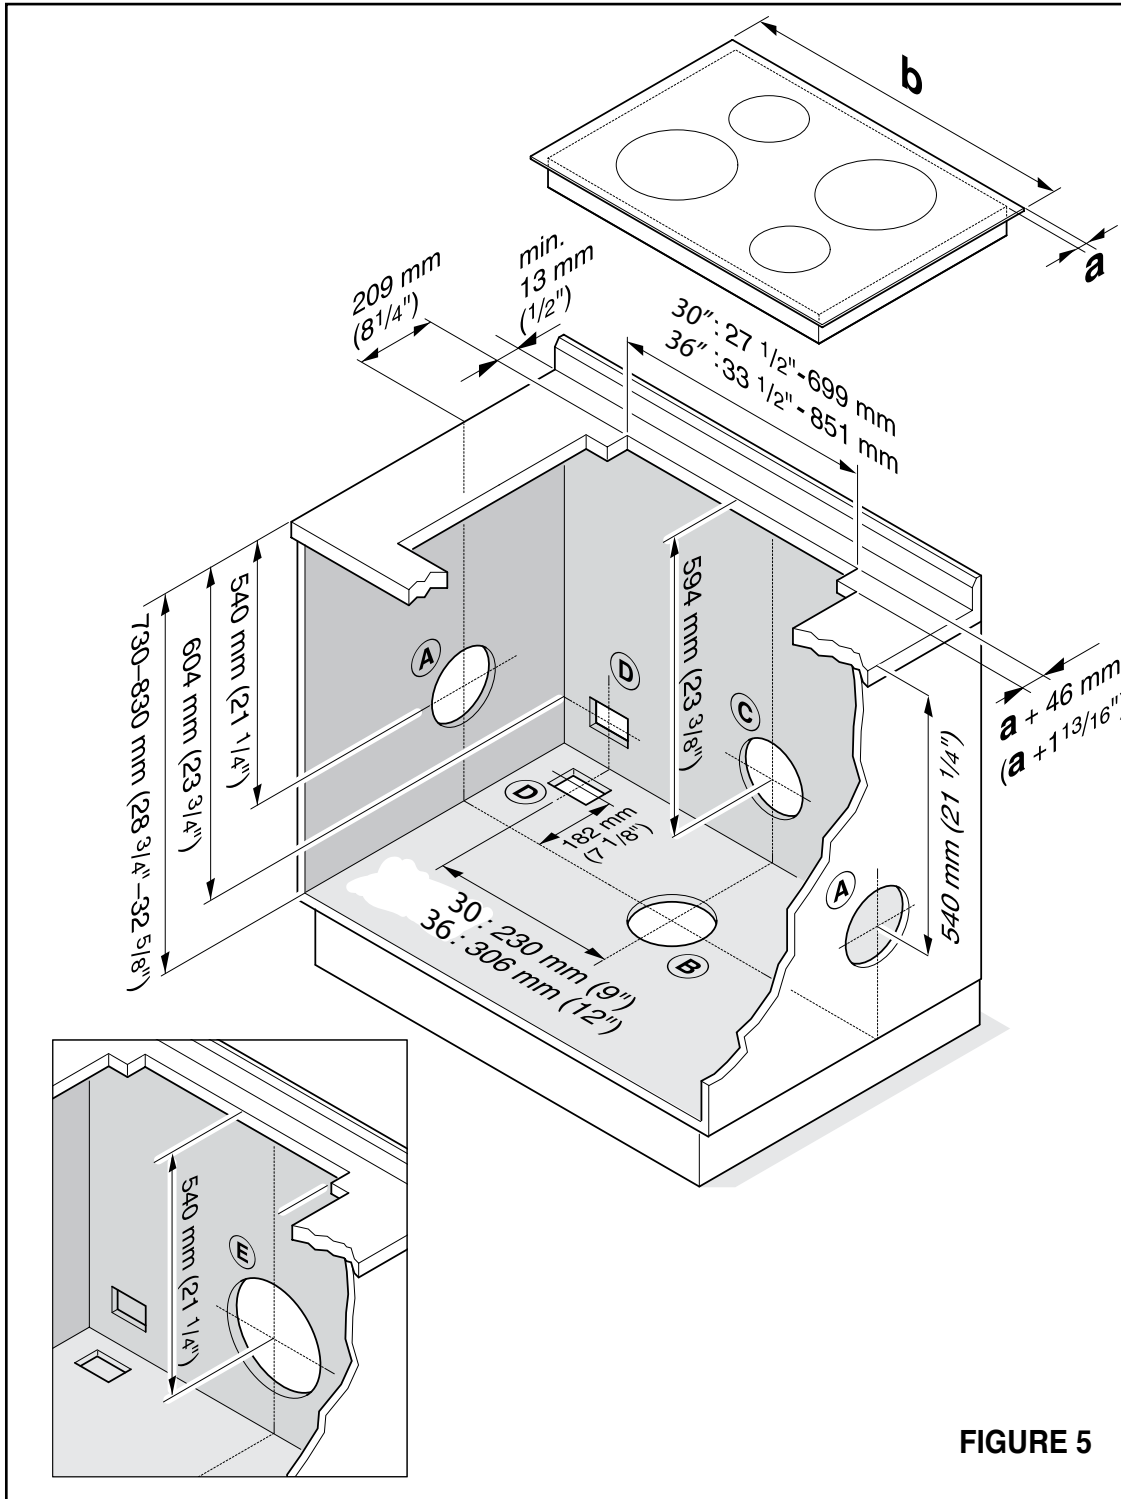
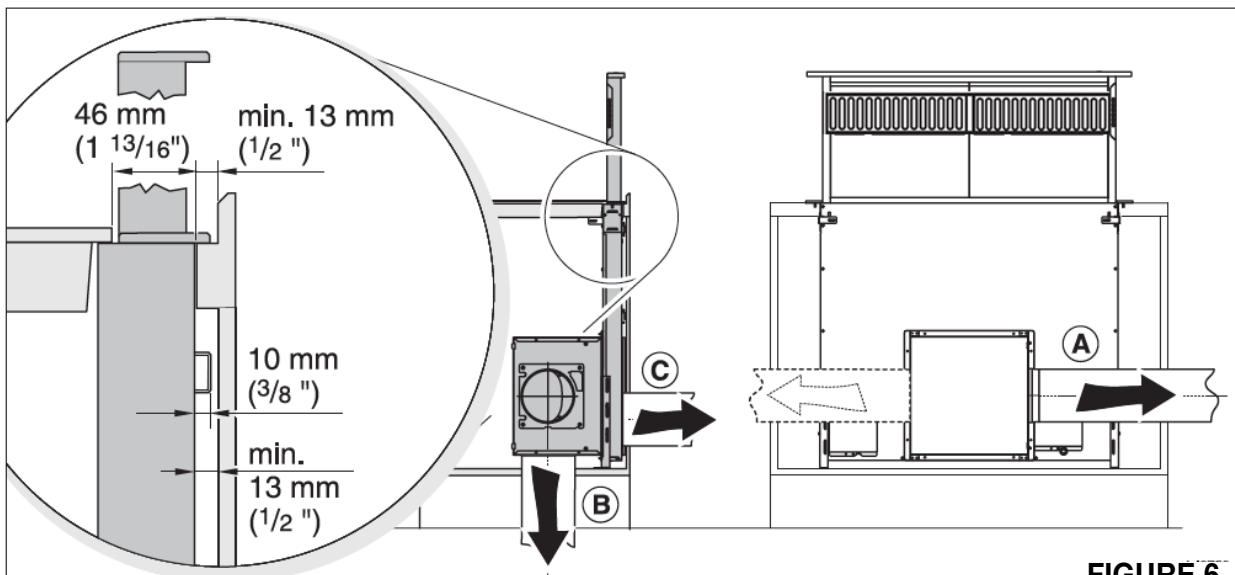

FIGURE 5
FIGURE 6
See the previous page with FIGURE 5, and FIGURE 6 above for reference. When using the IBDD600 internal blower installed on the front of the appliance use 6" Round ducting. Holes for ducting are shown on FIGURE 5, 6: (A) to the left or right (B) downwards, (C) to the rear. If the blower is being installed to the rear of the appliance, a cut-out must be made in the rear of the cabinet or wall where it will be mounted and the appropriate clearances must be maintained behind the cabinet.
See FIGURE 5, (D) Feed the power cord and control cable downwards or to the rear when using an remote blower.
See FIGURE 5 (E) When using the remote blower, install 10" ducting to the rear. If installing the exhaust ducting to the front, appropriate clearances must be maintained in the cabinet.